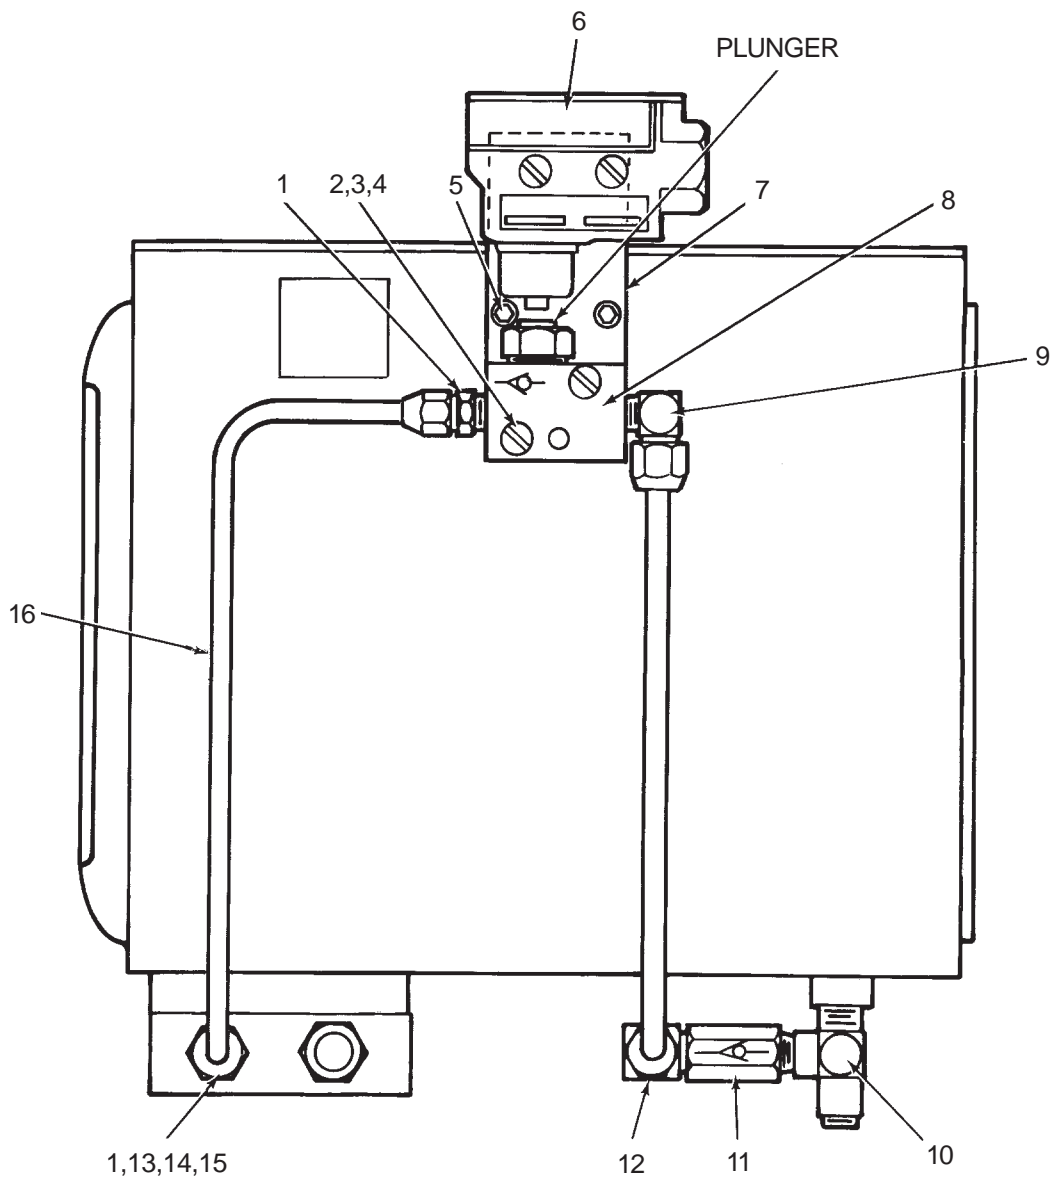

Figure 6-4. Tank Blowout Switch Assembly (Side View)
6.6.1 General. Maintenance tips, disassembly, and assembly instructions for tank blowout switches are discussed in Paragraphs 6.6.2 and 6.6.3. A typical tank with blowout switch is shown in Figure 6-4 and should be referred to during the discussion.
6.6.3 Assembly/Disassembly of Blowout Switch. Figure 6-4 shows a typical blowout switch mounted on a tank. All components are connected by pipe threads and tubing and are easily assembled or disassembled. The blowout body (15) is connected to the IND port on the manifold. The return elbow (12) is piped into the fill port of the reservoir. Normally, the only components which may require removal are the switch (6), indicator assembly (8) and blowout disc. Access to these components is easily achieved after removal of any connective tubing.
6.6.4 Tank Blowout Switch Parts List. Table 6-6 identifies the parts indexed on Figure 6-4.